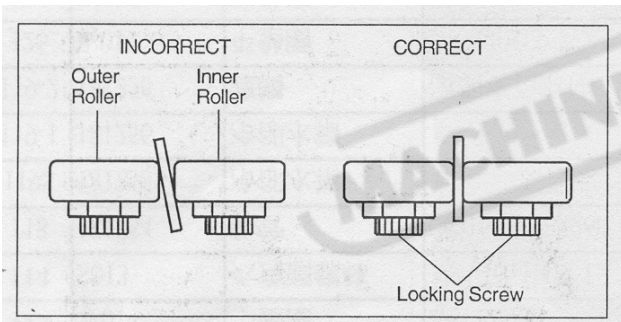

Figure 16. Blade-To-Blade Guide Orientation
- Position the bearing by turning the bushing. Set the clearance at approximately 0.001 inch. (The blade should be in a vertical position between the bearings. Refer to **Figure 16.**)